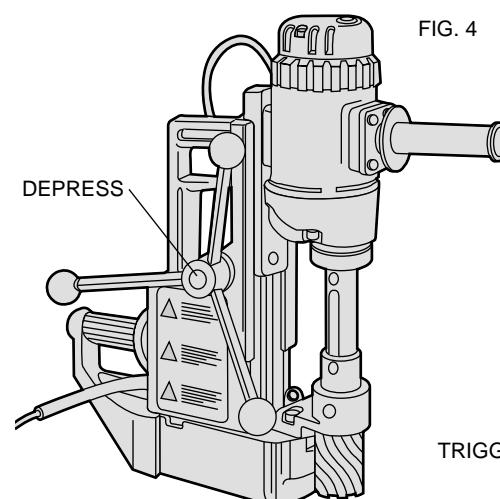

FIG. 4
- NOTE:** The feed handle is quickly and easily reversible. Depress button in feed handle hub and remove handle. Insert in opposite side and release button. Figure 4.